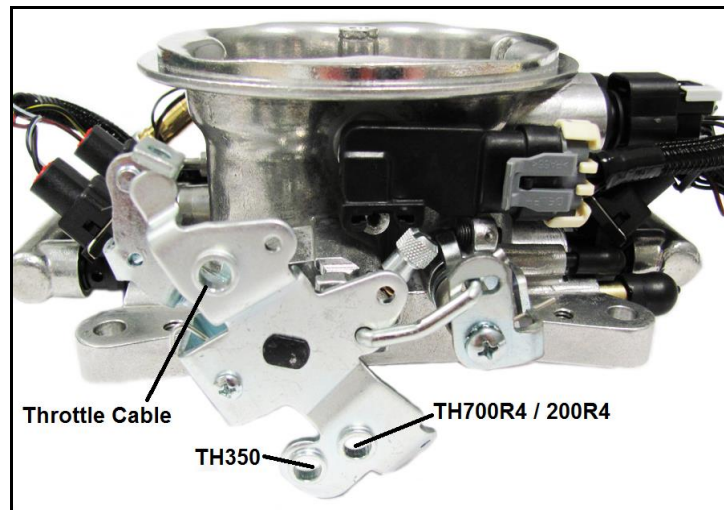

Figure 3
1. The throttle body is designed to provide the proper cable geometry for TH350, TH200R, and TH700R4 transmissions as shown in **Figure 3**. Install the **Throttle and Transmission Studs (Items 20, 21, 22, and/or 23)** for your application in their dedicated holes and secure each with a **Lock Washer (Item 21)** and 1/4-28 Nut (Item 22).